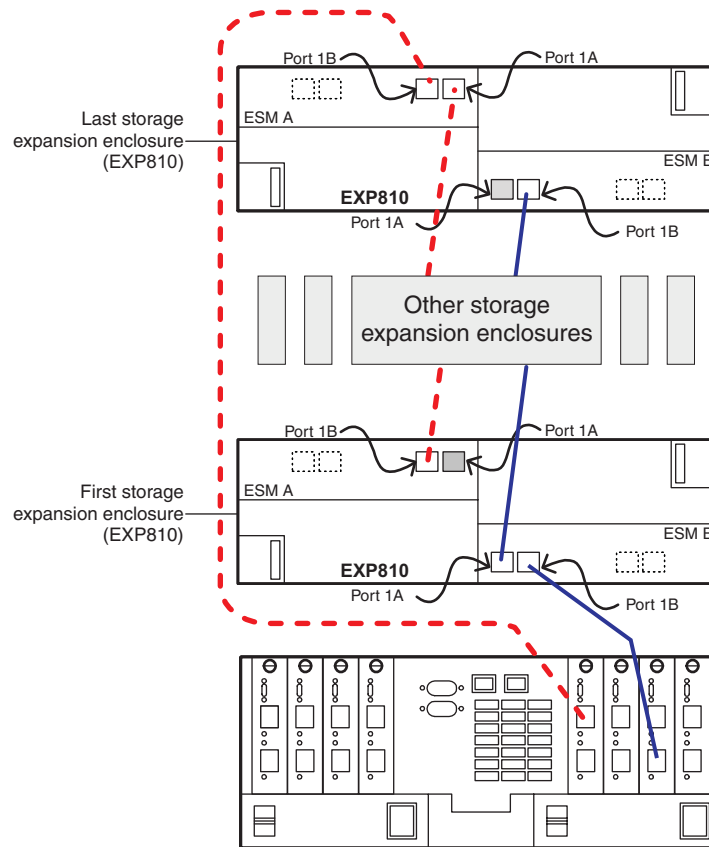
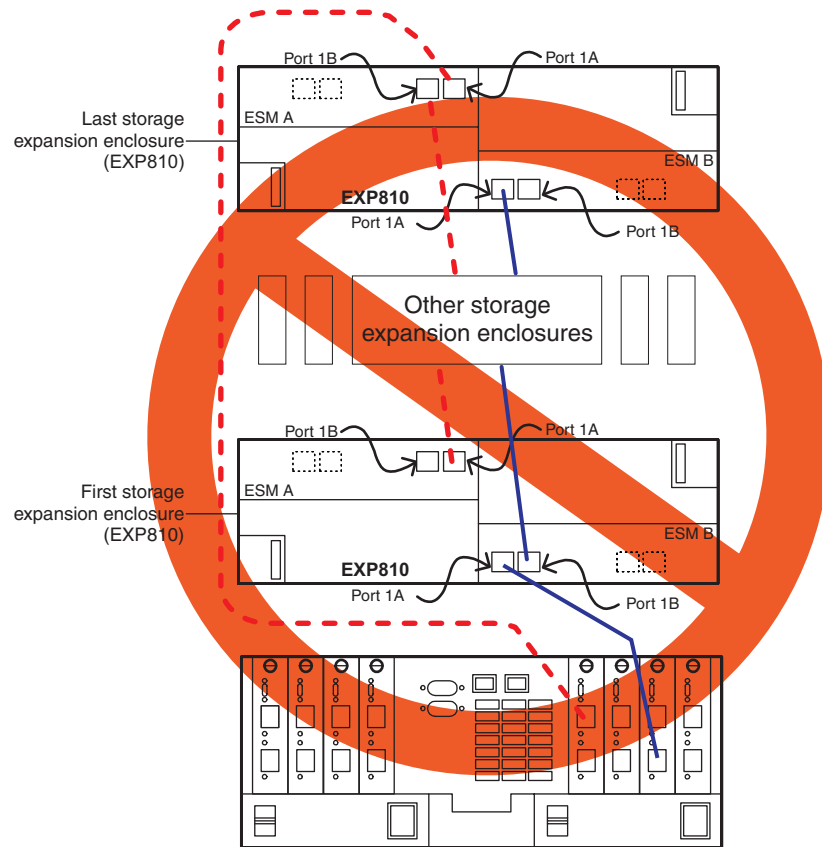

Figure 16. Supported cabling to EXP420/EXP520/EXP810/EXP5000 storage enclosure port 1B
Figure 17. Unsupported cabling to the EXP420/EXP520/EXP810/EXP5000 storage enclosure port
- The storage subsystem drive expansion port must always be connected to the EXP420/EXP520/EXP810/EXP5000 storage enclosure port 1B. Figure 16 on page 54 is an example of correctly cabling the EXP420/EXP520/EXP810/EXP5000 storage enclosure 1B ports to the storage subsystem drive expansion port. Figure 17 on page 55 is an example of incorrect cabling that shows the connection from the storage subsystem drive expansion port to the incorrect EXP420/EXP520/EXP810/EXP5000 storage enclosure port, labeled 1A.